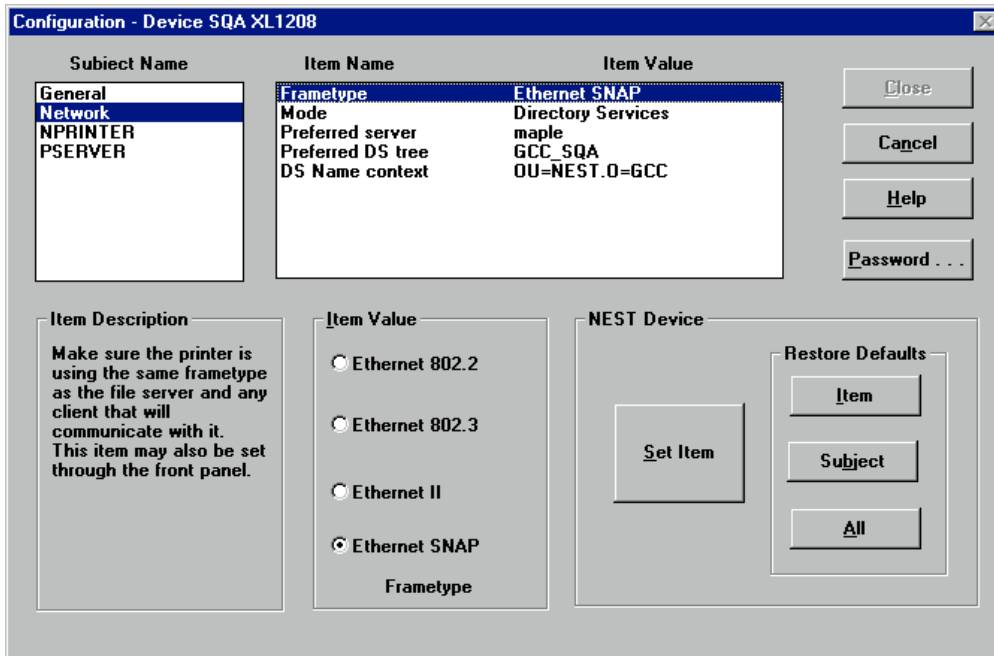

Figure 9. The Device Configuration dialog box. Depending on the item you are configuring, there may be slight differences in the Item Value section.
3. If your password allows you to edit this device, the **Device Configuration** dialog box appears (see *figure 9*).